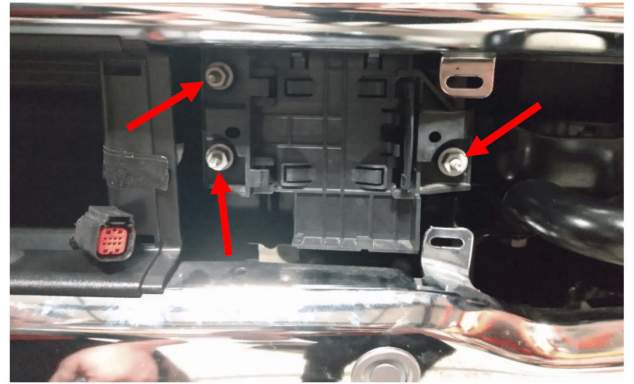

Figure 5.
5. Using an E6 torx socket remove the three (3) studs that attach the ACC bracket to the vehicle. Figure 5.